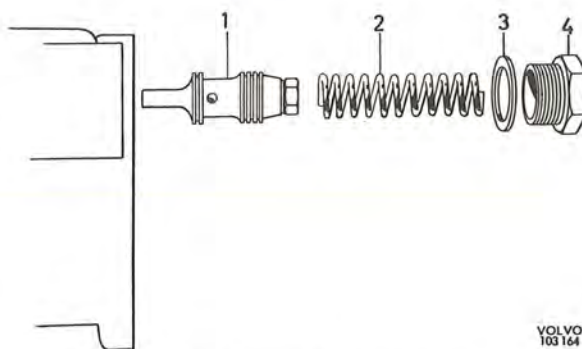

Fig. 6-64. Removing the control valve
- b) Remove the pump control valve, see Fig. 6-64. Observe the utmost cleanliness. Wash and blow clean before screwing out the plug (4, 6-67), which should be done from underneath. Check the valve piston and drilling in the housing. The hole in the valve piston must not be blocked. The piston should run easily in the housing and not jam. If necessary, fit a new valve. If this does not help, replace or recondition the pump.